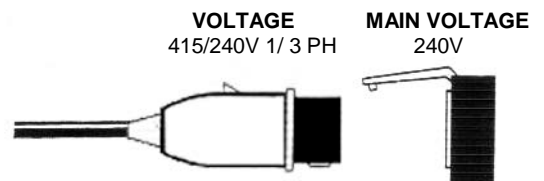

Figure 5. Main Control Switch
- 2) Switch the saw on by rotating the control switch located on the saw head assembly as shown in *Figure 5* below.